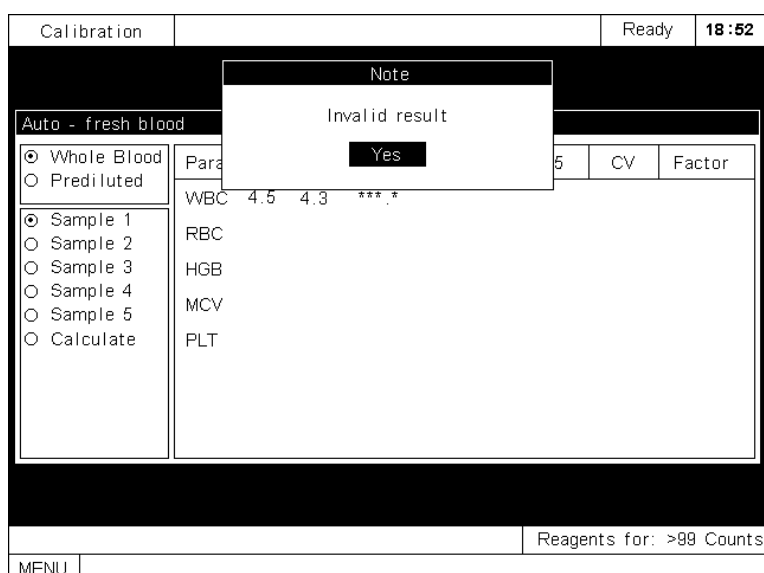

Figure5-21 Invalid result
- If the obtained result is invalid (**), a dialog will pop up to warn you, as Figure5-21 shows. Press [ENTER] to exit the dialog box and clear the calibration result.